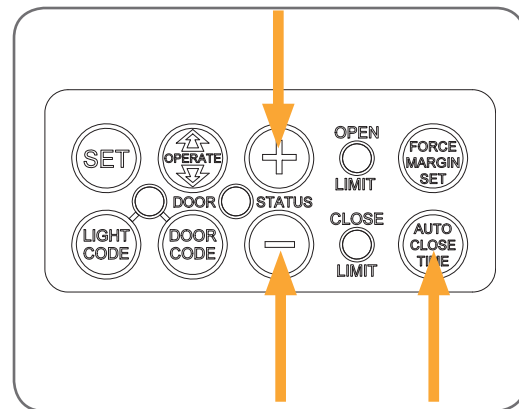

fig 46
- Hold down the AUTO CLOSE TIME button (**Fig. 46**).